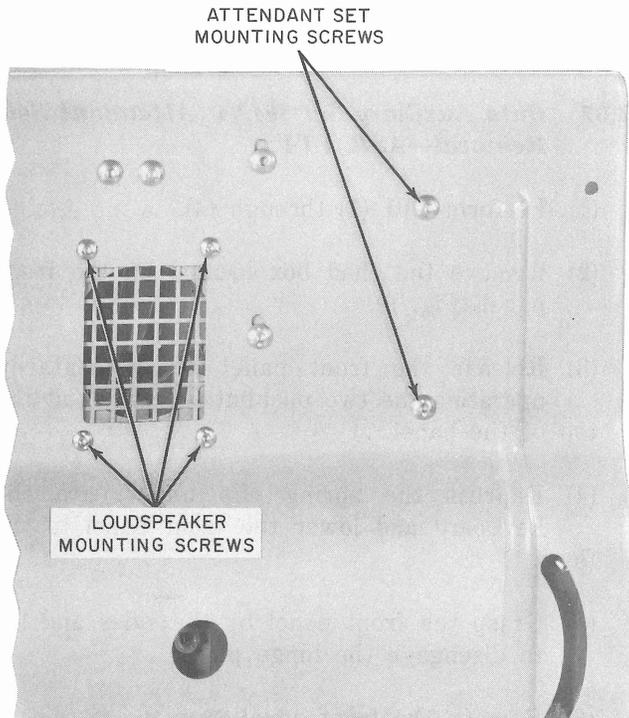

Fig. 12—35-Type TTY Data Station Attendant Set Mounting—Underneath View
- (1) Perform 3.01 (1) through (4).
- (2) Disengage the attendant set lower bracket and mounting plate by removing two Allen screws (Fig. 12).
- (3) Disengage the speaker mounting bracket by removing four Allen screws.
- (4) Move the attendant set to the right to gain access to the left side of the bracket assembly.